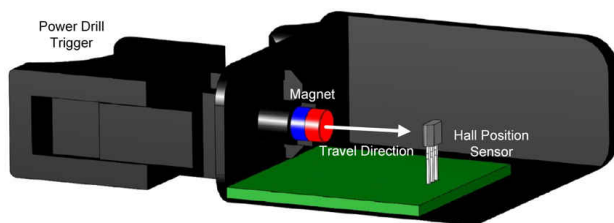
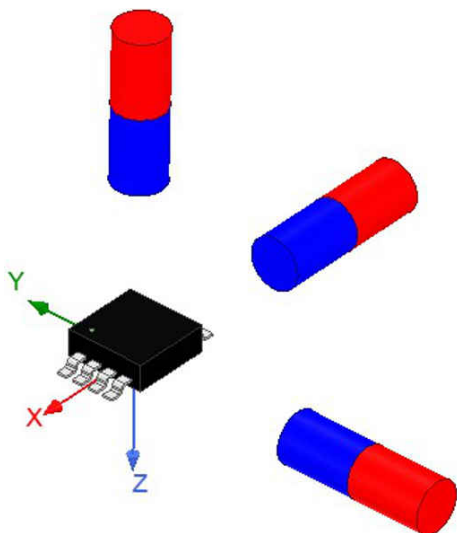

Figure 1. Head-on Configuration in a Power Drill Trigger
Figure 3. X (In-Plane), Y (In-Plane), and Z (Out of Plane) Directions in an Example 3D Hall Position Sensor
A robust contactless method for measuring linear position can be implemented using a magnet and a linear Hall position sensor that are arranged in a head-on configuration, as shown in Figure 1. In this approach, a magnet is placed on the moving component so that it moves along with it. The linear Hall position sensor senses the resulting magnetic flux density from the magnet.
An example moving component that requires linear position measurement is the variable speed trigger in power tools or other appliances, which measures how far the trigger is pressed and translates it into the operating speed of the tool. Figure 1 specifically shows an example of the placement of a cylinder magnet and Hall position sensor for a cordless power drill that uses a head-on configuration for translating how far the trigger is pressed into the speed of the drill. For this example, the magnet is closest to the Hall position sensor when the trigger is fully pressed and it is furthest when the trigger is unpressed. Using a similar approach to Figure 1, the head-on configuration can also be used for level or pressure sensing in washers and dryers and object or wall detection in a robotic vacuum.
- **In-plane versus Out-of-Plane Field Direction:** In-plane 1D position sensors are sensitive to application of the magnet pole in the same plane as the die, similar to the application of the X- or Y-axis magnets shown in Figure 3. Out-of-plane 1D position sensors are sensitive to the magnetic field component that is perpendicular to the die inside the package. The Z-axis magnet in Figure 3 shows the out-of-plane orientation for a SOT23 surface mount package while Figure 1 shows the out-of-plane orientation for a TO-92 through-hole package. 3D Hall position sensors are sensitive to the magnetic field component in X, Y, and Z directions. The X and Y fields are in plane with the package while the Z field is perpendicular (out of plane) to the top of the package, as shown in Figure 3.